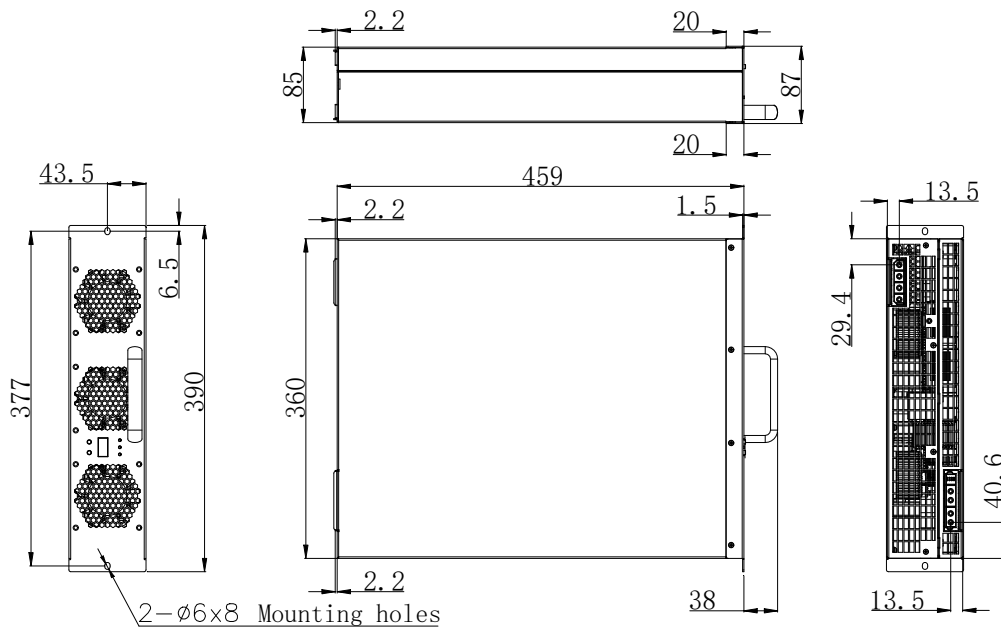

Figure 2-6 Module Dimensions (mm)
2.2.1 The dimension of MXR100030B is shown in figure 2-6.